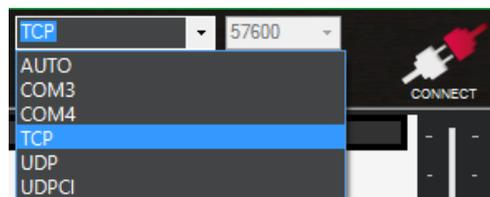

Figure 17 – Mission planner connection options.
- Choose TCP or UDP and press the button “CONNECT” as per figure 17.